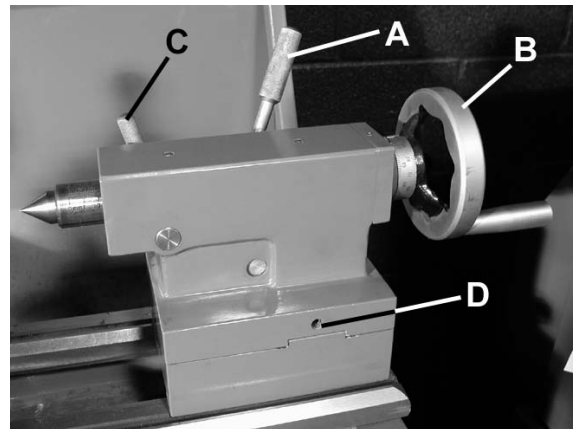

FIGURE 11
The tailstock can be moved freely on the bedway and fastened at any position by locking tailstock lever (A) Fig.11. The tailstock quill can be moved in and out by using handwheel (B) and then fastened in place using quill locking lever (C). Dead centers or drill chucks are normally installed in the tailstock quill.
Unlock tailstock lever (A) Fig.11 and adjust set screws (D) on both sides of the tailstock until the distance at both ends of the ground steel bar are the same.